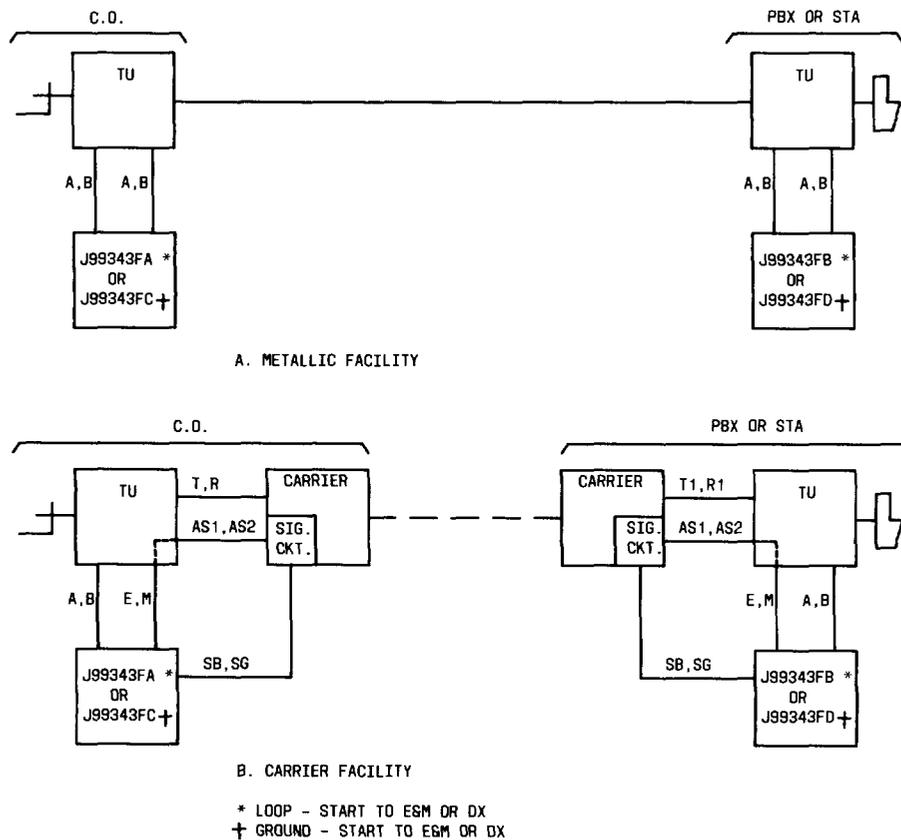

Fig. 1—Metallic and Carrier Applications of the J99343FA, FB, FC, FD Signaling Converters
4.03 Typical circuit applications for these converters are shown in Fig. 1. The diagram in Fig. 1A shows the signaling lead interfaces between the transmission and signaling units when used with metallic facilities. Figure 1B shows the signaling connections required between the transmission unit, signaling unit, and carrier signaling circuit.
5.03 The J99343FA, FB, FC, and FD MFT signaling units cannot be field tested individually. They must be tested through the companion MFT transmission unit which requires the use of the J99343TB test extender (Section 332-910-102). The test extender, which is designed to allow adjustment and testing of MFT transmission units, provides jack access to the AS1, AS2, and A&B or SX signaling leads which pass through the transmission unit (TU). Opens and closures of the loop or pulses of the signaling units may be checked with the appropriate test equipment using the test jacks provided by the test extender. Figure 1 shows the lead designations for various types of switching offices.